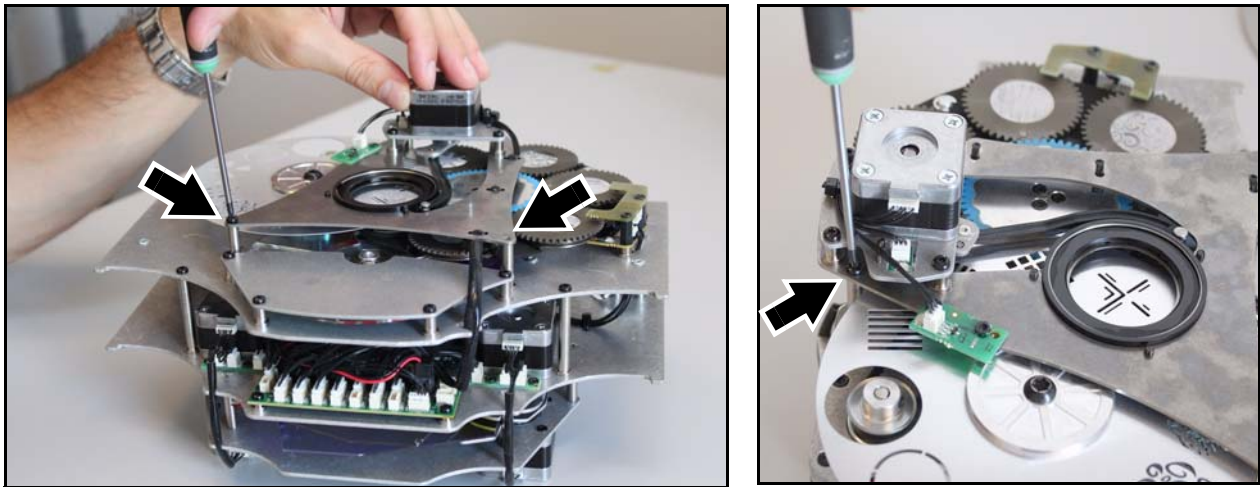

Figure 14: Releasing the iris unit
2. See Figure 14. Remove the three Torx 10 retaining screws (arrowed) from the iris unit.